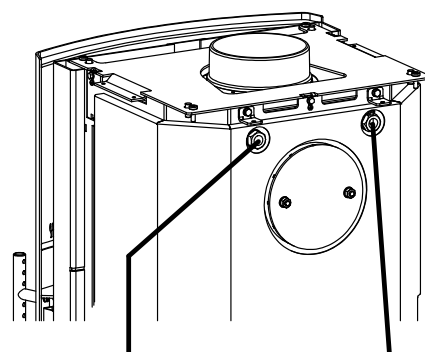

Fig. 3 Sensor pocket for TAS
- Slide the temperature sensor of the "Temperature Difference Controller" into the right-hand sensor pocket and secure it using the threaded screw (Fig. 3).